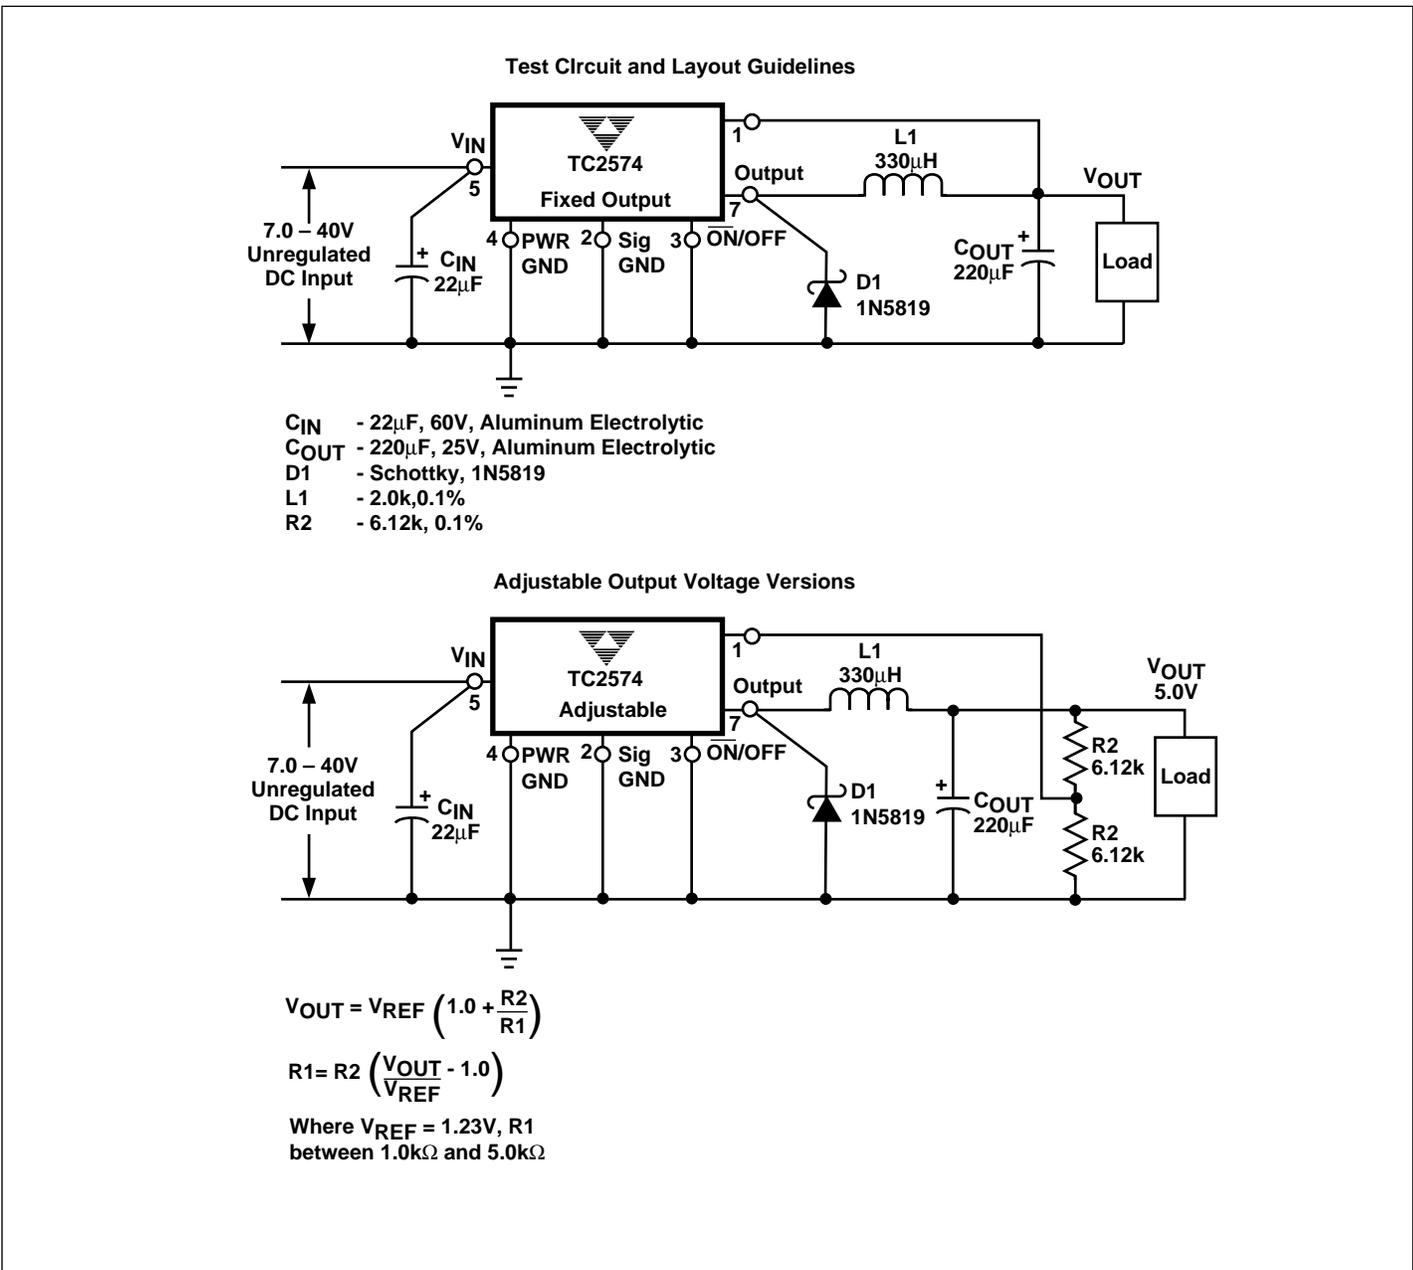

Figure 2. Test Circuit and Layout Guidelines
TC2574-3.3 [( Note 1) Test Circuit Figure 2]
TC2574-5 [( Note 1) Test Circuit Figure 2]
TC2574-12 [( Note 1) Test Circuit Figure 2]
TC2574-Adjustable Version [( Note 1) Test Circuit Figure 2]
- External components such as the catch diode, inductor, input and output capacitors can affect the switching regulator system performance. When the TC2574 is used as shown in the Figure 2 test circuit, the system performance will be as shown in the system parameters section of the Electrical Characteristics.
TC2574-ADJUSTABLE VERSION [(Note 1) Test Circuit Figure 2]
As with any switching regulator, the layout of the printed circuit board is very important. Rapidly switching currents associated with wiring inductance, stray capacitance and parasitic inductance of the printed circuit board traces can generate voltage transients which can generate electromagnetic interferences (EMI) and affect the desired operation. As indicated in the Figure 2, to minimize inductance and ground loops, the length of the leads indicated by heavy lines should be kept as short as possible.
<p>1. Programming Output Voltage</p> <p>To select the right programming resistor R1 and R2 value (see Figure 2) use the following formula:</p> $V_{OUT} = V_{REF} \left( 1.0 + \frac{R2}{R1} \right) \text{ where } V_{REF} = 1.23V$ <p>Resistor R1 can be between 1.0kΩ and 5.0kΩ. (For best temperature coefficient and stability with time, use 1% metal film resistors).</p> $R2 = R1 \left( \frac{V_{OUT}}{V_{REF}} - 1.0 \right)$	<p>1. Programming Output Voltage (selecting R1 and R2)</p> <p>Select R1 and R2</p> $V_{OUT} = 1.23 \left( 1.0 + \frac{R2}{R1} \right) \text{ Select } R1 = 1.0k\Omega$ $R2 = R1 \left( \frac{V_{OUT}}{V_{REF}} - 1.0 \right) = 1.0k \left( \frac{10V}{1.23V} - 1.0 \right)$ <p>R1 = 18.51kΩ, choose a 18.7kΩ metal film resistor.</p>